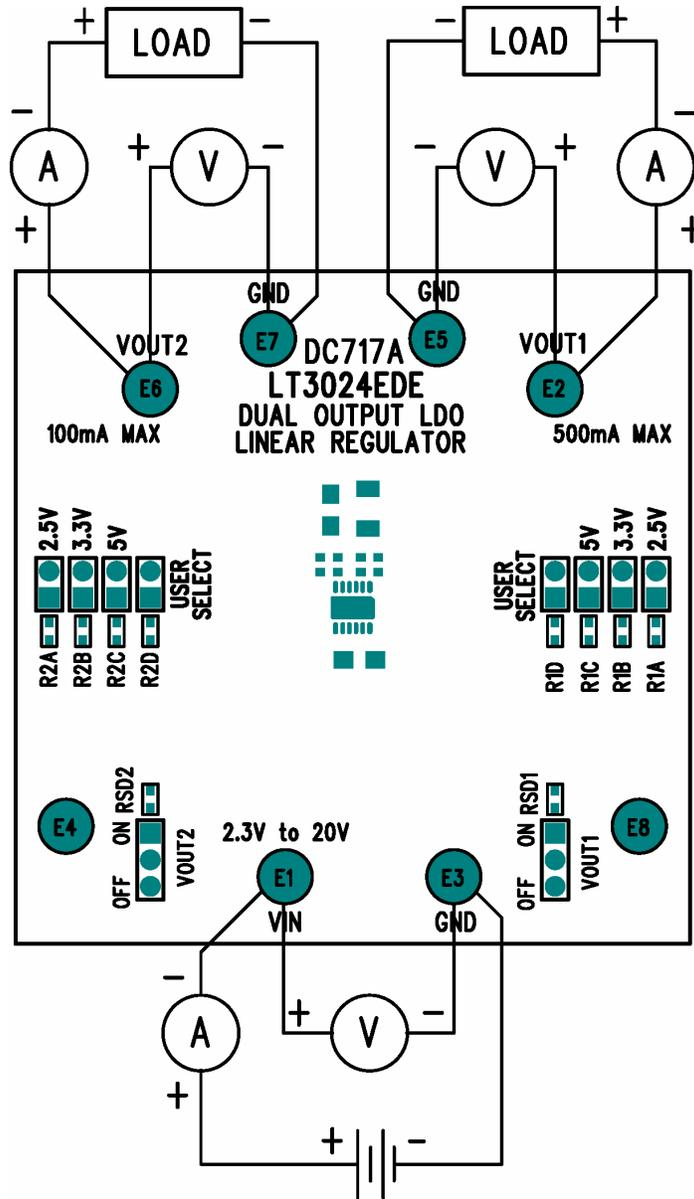

Figure1. Proper Measurement Equipment Setup
The DC717 is easy to set up to evaluate the performance of the LT3024. For a proper measurement equipment configuration, set up the circuit according to the diagram in Figure 1.
1. Connect the input power supply to the V_{in} and GND terminals. Connect the loads between the V_{out} and GND terminals. Refer to figure 1 for the proper measurement equipment setup.